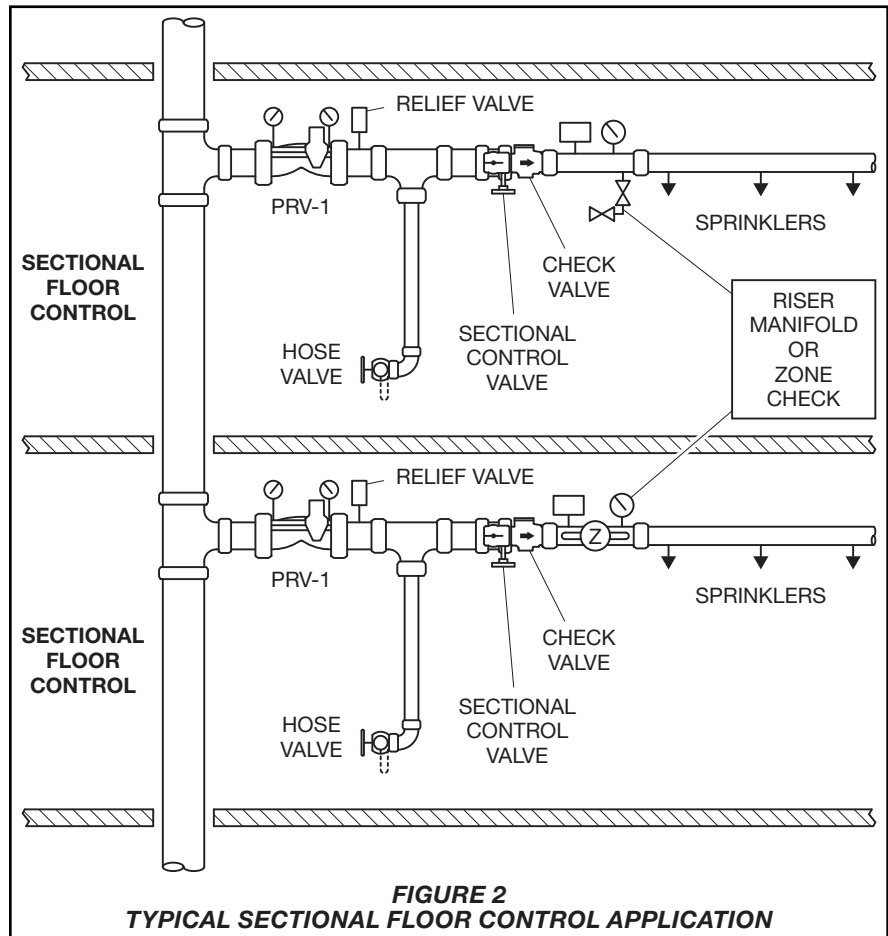

FIGURE 2
- As part of a sectional floor control assembly (Ref. Figure 2) supplying sprinkler systems, and/or hose stations